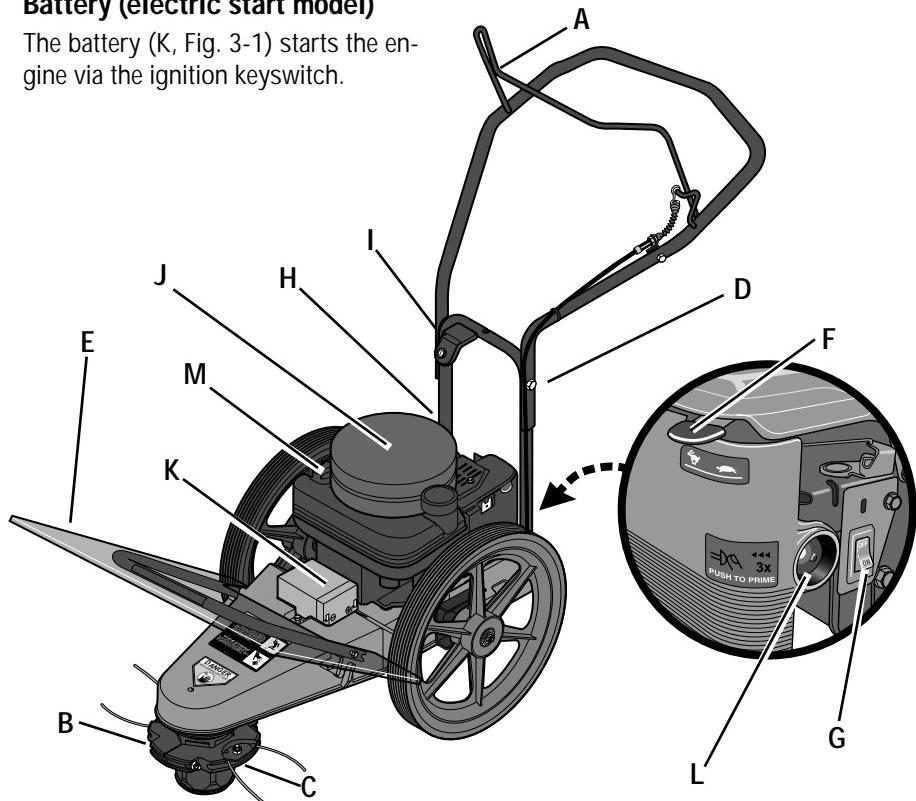

Figure 3-1: Features and controls (electric start model shown)
The control bail (A, Fig. 3-1) is used to start and stop trimmer head motion. Pull the control bail up against the handlebar to activate the trimmer head. Let go of the control bail to stop the trimmer head.
The trimming head (B, Fig. 3-1) is adjustable to an infinite number of height settings from 1-1/2"-to-4-1/2".
The two cutting lines are secured with bolted clamp plates (C, Fig. 3-1). For most jobs, line length should be adjusted equally. For some jobs, the overall line swath can be increased from the normal 22" to 25" by offsetting the line.
The handlebar (D, Fig. 3-1) has two height settings (requires removal and reinstallation of two screws and lock-nuts).
A heavy-duty plastic shield (E, Fig. 3-1 and 3-1A) protects the engine from all manner of debris. The shield tilts forward for access to oil, fuel fill, and battery (electric start units) areas.
Use this lever (F, Fig. 3-1) to regulate engine speed.
Put switch (G, Fig. 3-1) in ON position before starting engine. Use OFF position to stop engine.
The recoil starter (H, Fig. 3-1) is mounted on the engine.
The engine ignition keyswitch (I, Fig. 3-1) allows starting the engine from the handlebar.
The foam debris filter (J, Figure 3-1) protects the engine from accumulations of cut materials that can clog the engine cooling passages. See the Maintenance Section for information on servicing this important filter.
The battery (K, Fig. 3-1) starts the engine via the ignition keyswitch.
The fuel primer button (L, Figure 3-1) allows a cold engine to be primed for faster, easier starting.
The engine oil fill hole/oil dipstick (M, Figure 3-1) is located on the right side of the engine.
- A. Lift and tilt plastic debris shield forward (refer to Figure 3-1).